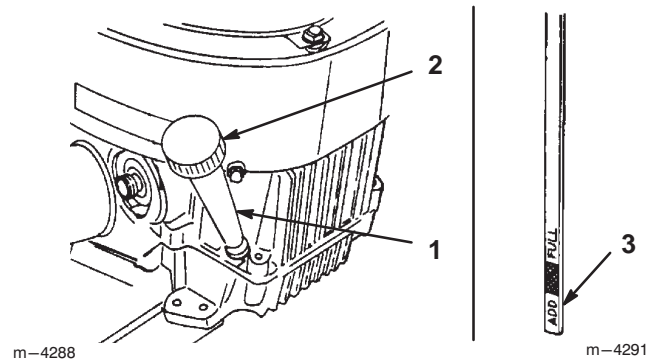

Figure 17
4. Clean around the oil dipstick (Fig. 17) so that dirt cannot fall into the filler hole and damage the engine.
5. Unscrew the oil dipstick and wipe the metal end clean (Fig. 17).
6. Slide the oil dipstick fully into the filler tube, but do not thread it onto the tube (Fig. 17). Pull the dipstick out and look at the metal end. If the oil level is low, slowly pour only enough oil into the filler tube to raise the level to the "FULL" mark on the dipstick.
10. Clean around the oil dipstick and unscrew the cap (Fig. 17).
11. Slowly pour approximately 80% of the specified oil into the filler cap (Fig. 17). Refer to Servicing the Engine Oil, page 23.